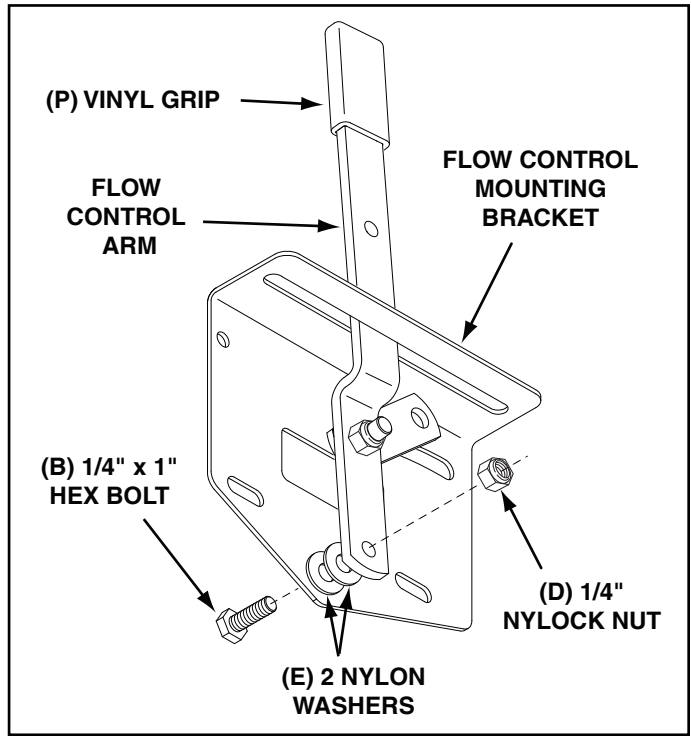

FIGURE 7
15. Assemble the flow control arm to the flow control mounting bracket using a 1/4" x 1" hex bolt (B), two nylon washers (E) and a 1/4" nylock nut (D) as shown in figure 7. **Tighten carefully.** The flow control arm should pivot with a slight resistance.
16. Assemble the vinyl grip (P). See figure 7.